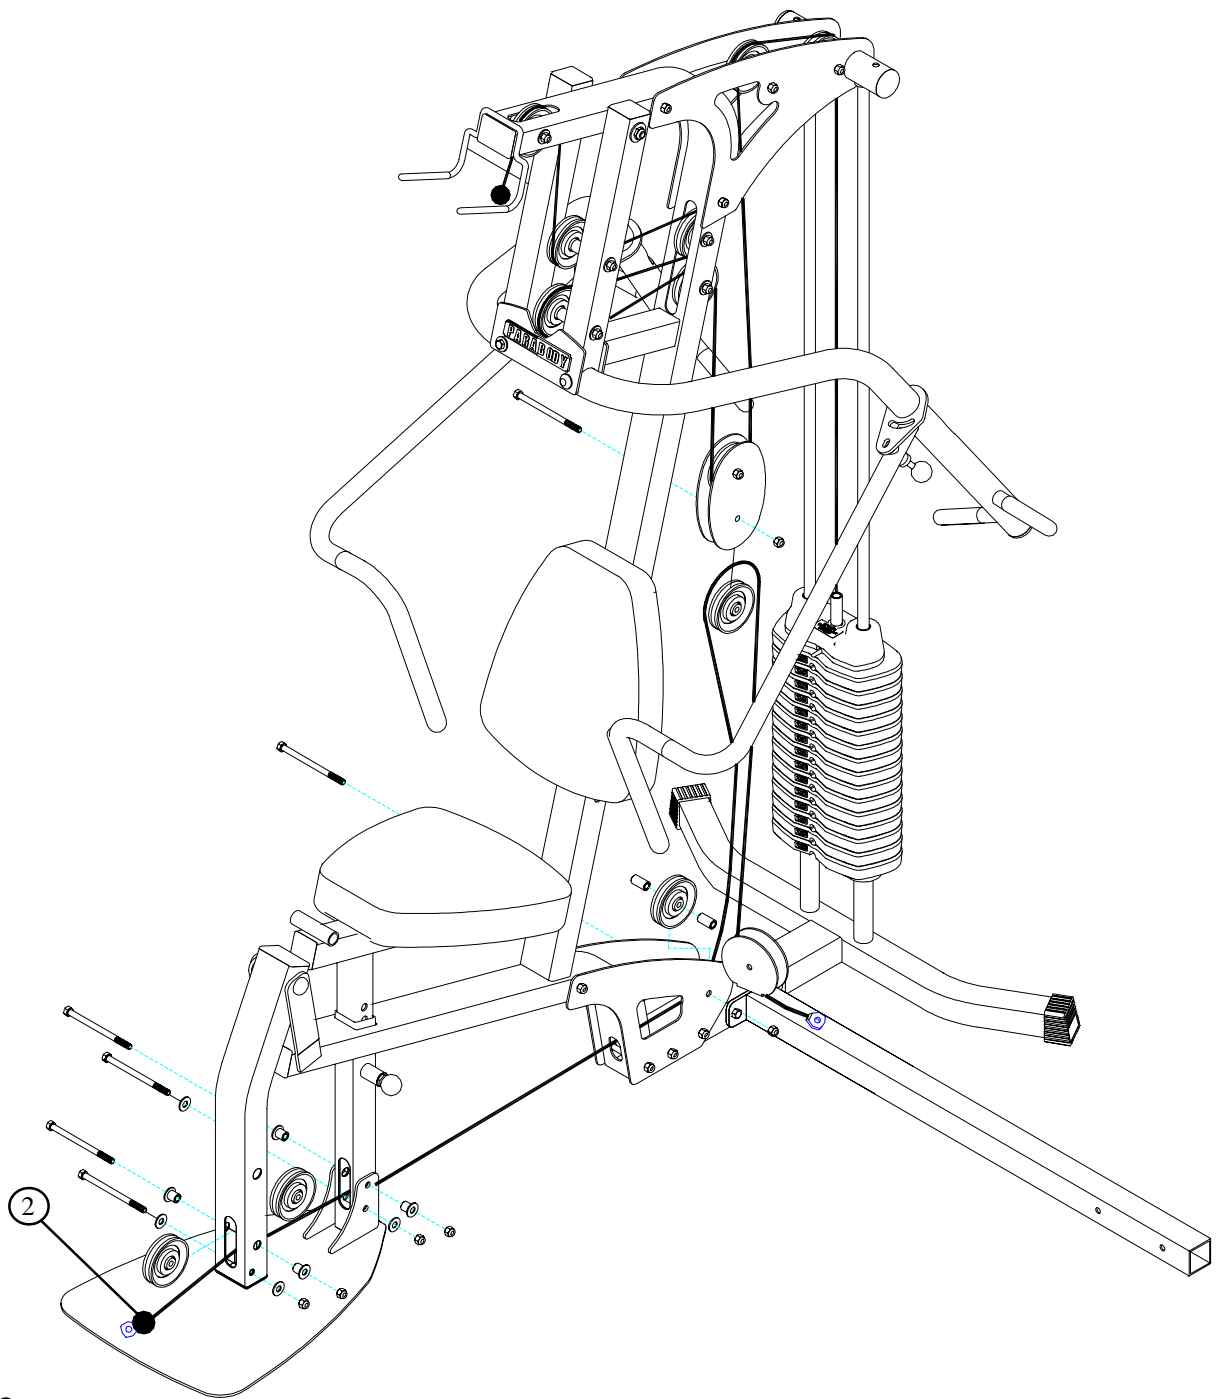

**FIGURE 2**
- Slide two 2" COVER CAPS (4) over the FRONT LEG (1) as shown in FIGURE 2
- **SECURELY** assemble the FRONT LEG (1) to the 220 Gym System using two 3/8 X 4" BOLTS (10), one previously removed 3/8" WASHER, three 3/8" WASHERS (6), one previously removed 3/8" LOCK NUT and one 3/8" LOCK NUT (7) as shown in FIGURE 2.